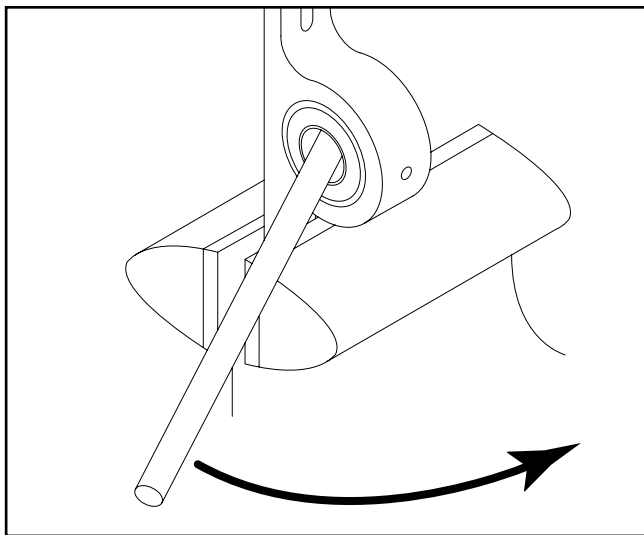

Figure 18. Detaching bearing from housing.
2. Insert the screwdriver into the center hole of the bearing as shown in **Figure 18**. Lever the bearing until it turns perpendicular to the housing. Once the bearing is turned 90° from the housing, it should slide free with little effort. The housing is designed with notches that allow the bearing to be inserted and removed. It is important that you lever the bearing so it turns in alignment to those notches.